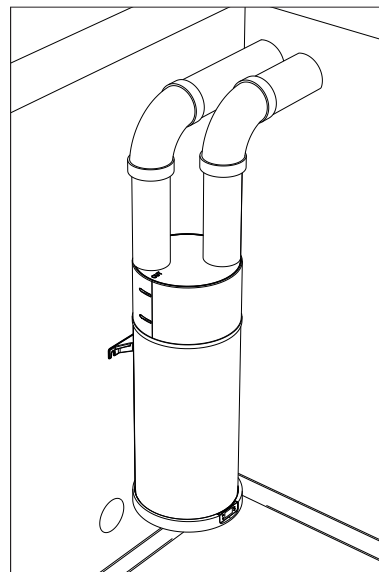

fig. 33
- Ducted IN and OUT ("fig. 33" and "fig. 34")